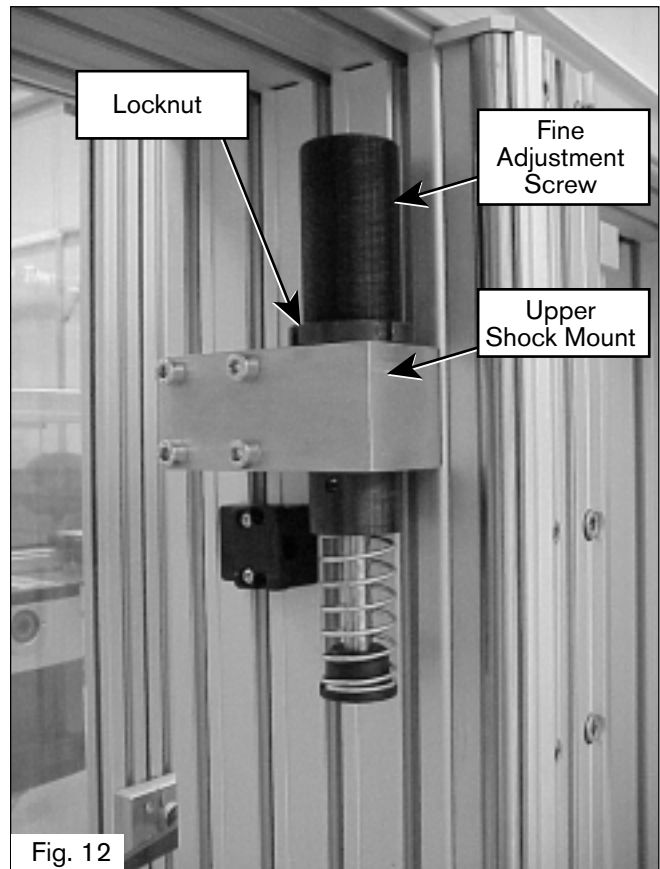

Fig. 12
1. Make sure that the upper shock mount is firmly in place. Then raise the carriage plate by supplying air to the cylinder. The upper stop bolt on the carriage plate should rest squarely against the stop collar on the upper shock absorber, Fig 12.